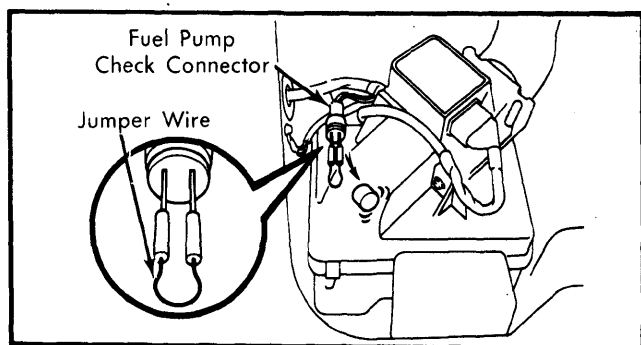

Fig. 2 Check Connector Location
1) Turn ignition switch ON. Short both terminals of fuel pump check connector. See Fig. 2. Check for pressure in hose to cold start injector. At this time you will hear fuel return noise from pressure regulator.